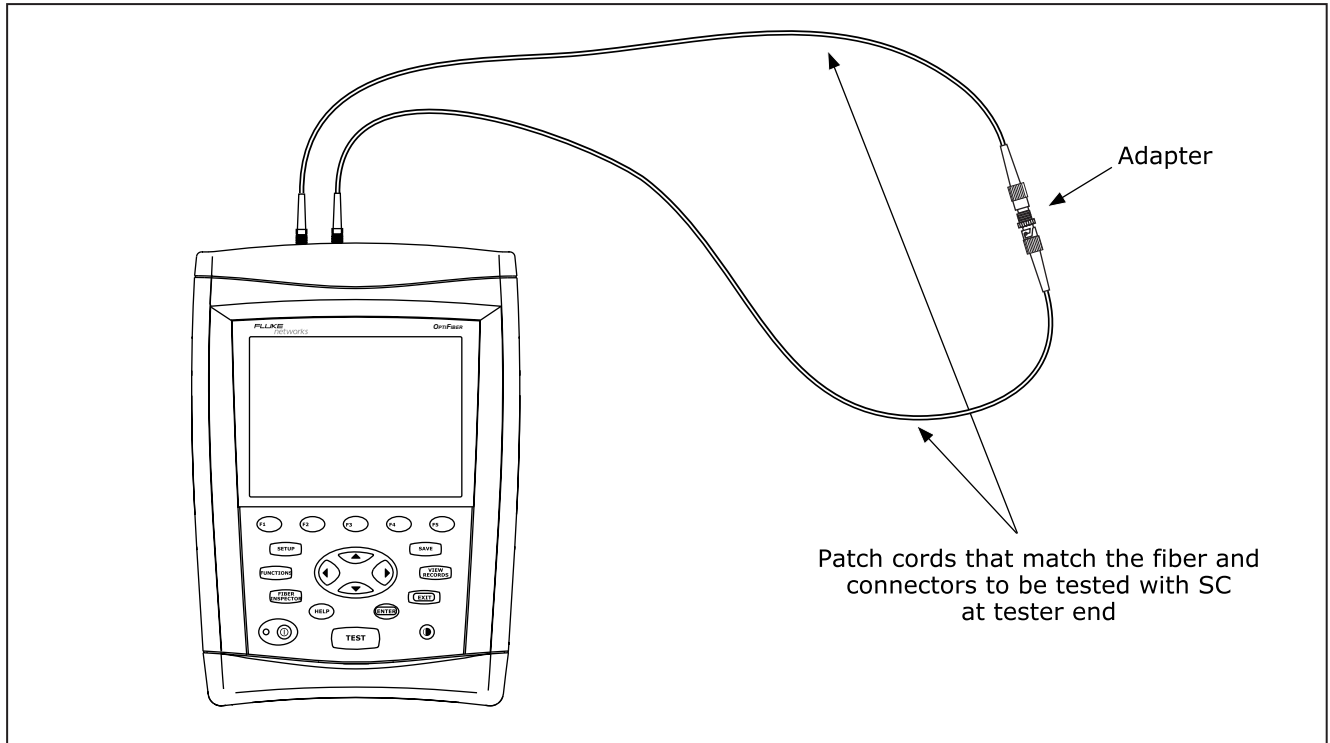

Figure 6-6. Loopback Mode Reference Connections
5. Make the connections shown on the **SET REFERENCE** screen and in Figure 6-6; then press **TEST**.